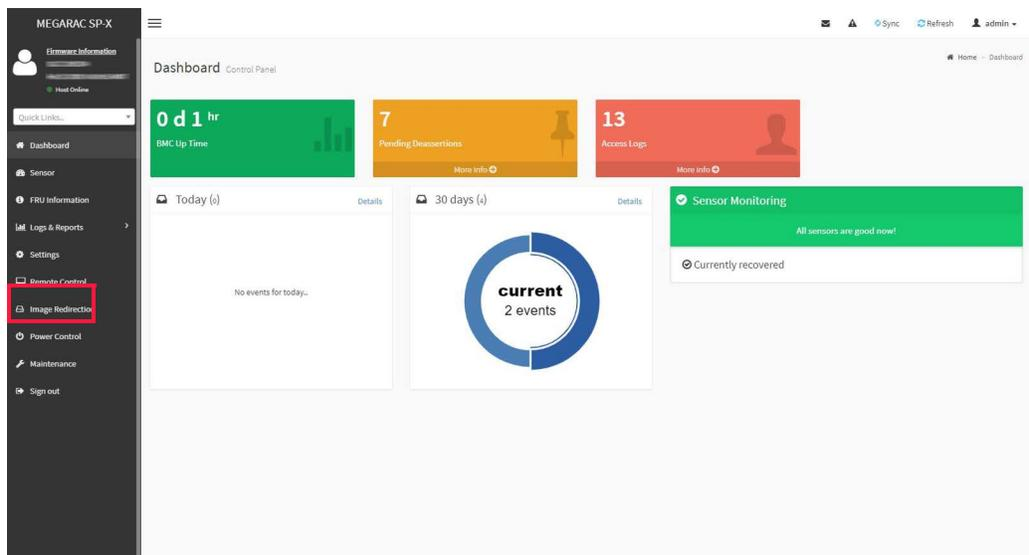

Figure 6.8 BMC WebUI Dashboard
4. The BMC WebUI **Dashboard** is automatically displayed as shown in Figure 6.8. Click **Remote Control** from the main menu.